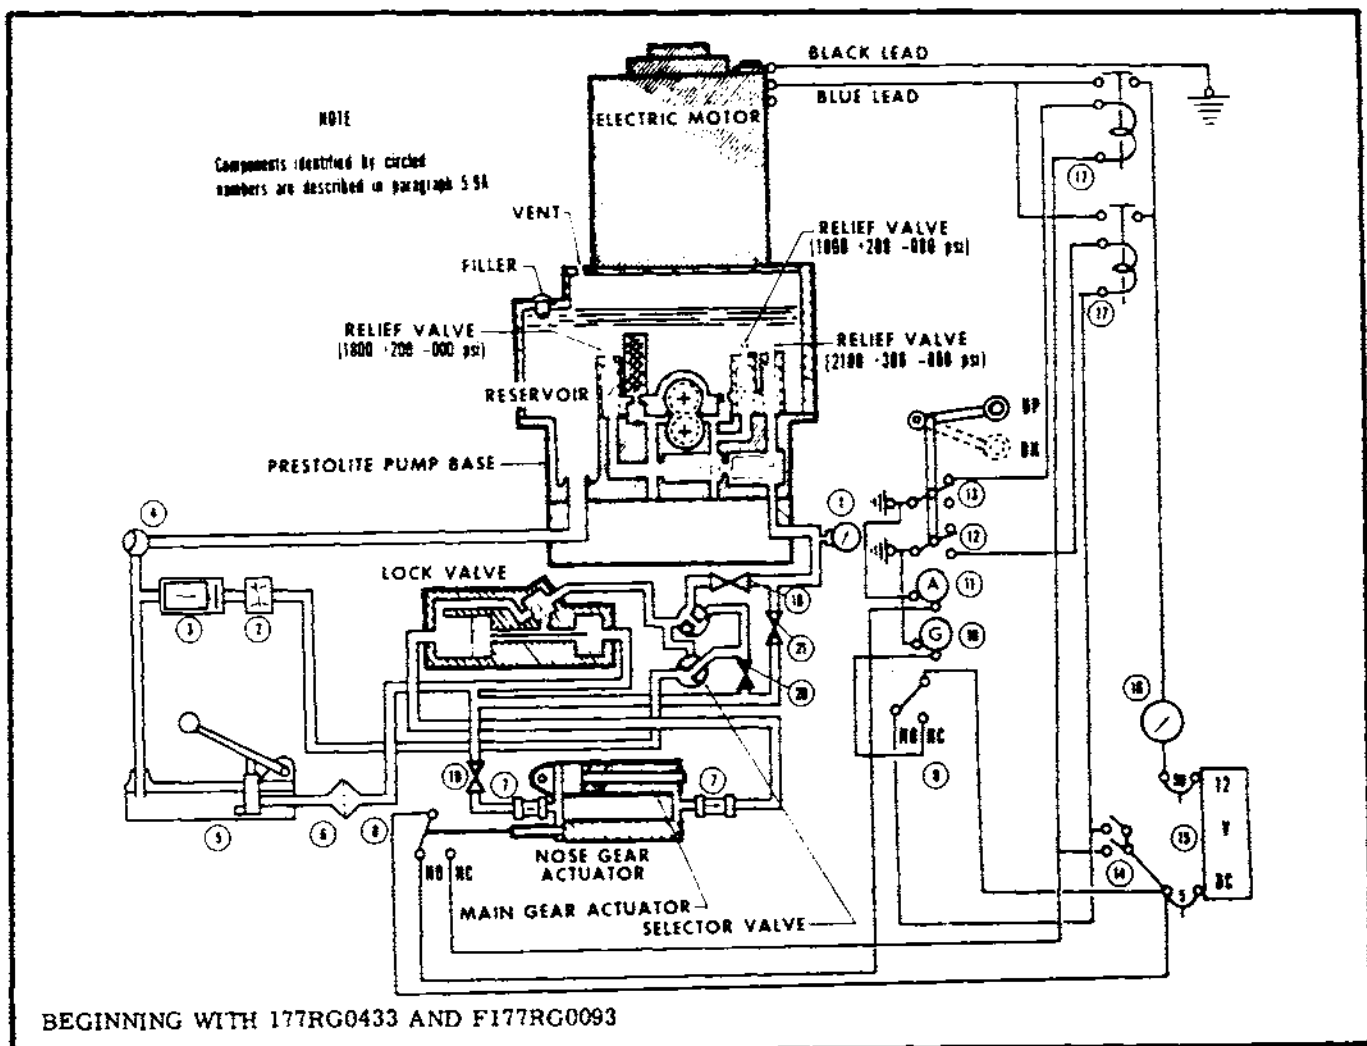

Figure 5-3A. Power Pack Functional Test Schematic
5-9A. POWER PACK FUNCTIONAL TEST PROCEDURES. BEGINNING WITH 177RG0433 AND F177RG0093 (Refer to figure 5-3A.)
- AC105H4609E-4 Screen insert (2)
- MS28778-4 Gasket (2)
- Switches shall be of single-pole, single-throw type provided with convenient actuating system and arranged as shown in figure 5-3A. Purpose is to cut off power supply to electric motor (solenoid switches) at the end of the working cycle, and to turn on corresponding indicator light.